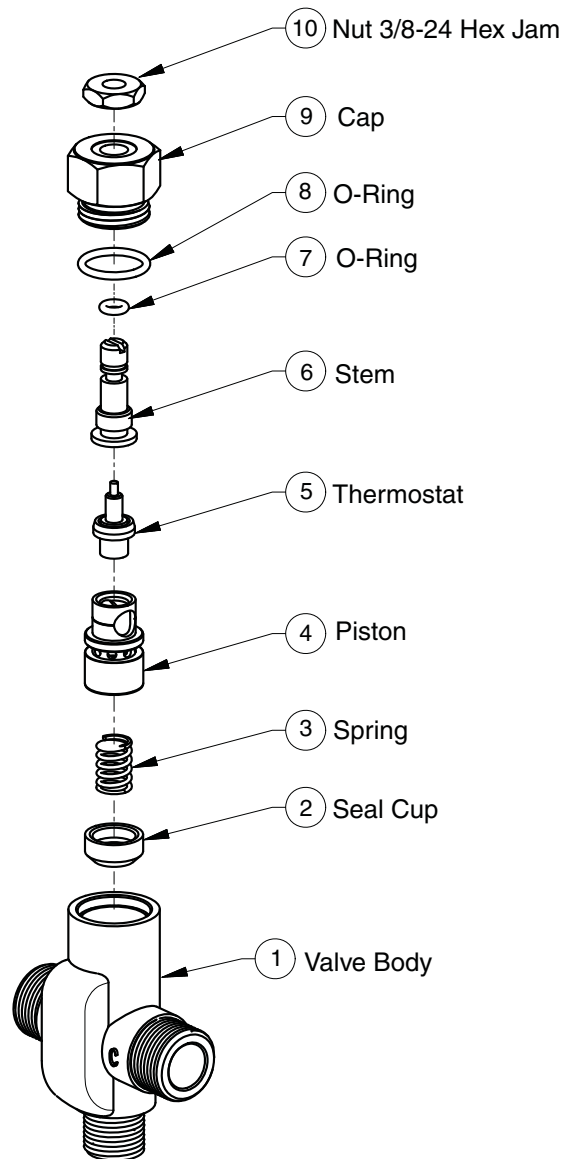

Figure 10
1. Remove the valve's cap and thermostat (see Figure 10 on Page 27).